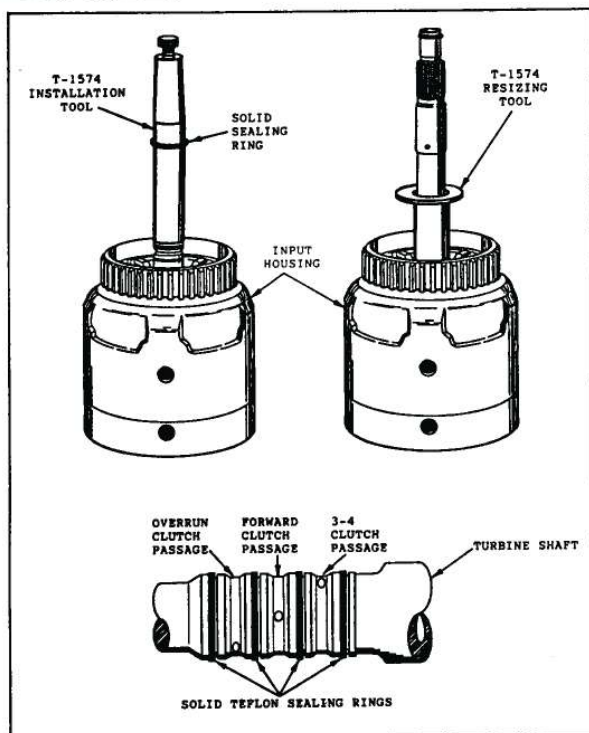

Figure 144
1. Set the input housing on the bench with turbine shaft up (See Figure 144).
2. Install the four turbine shaft sealing rings onto the turbine beginning with the bottom ring (See Figure 144).
5. Solid rings will require installation tool, and re-sizing tool, as shown in Figure 144.
6. The Kent-Moore tool numbers J-36418-1 and J-36418-2A, in addition to the Trans-Tool numbers in Figure 144 can be used for this operation.
7. Air check the 3-4, forward, and the overrun clutches by applying air to the feed holes in the turbine shaft (See Figure 144).